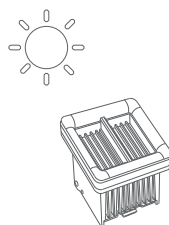

Figure 3
3. Put the filter attachment rack thoroughly dry, and then put it into the sewage tank (Figure 3).